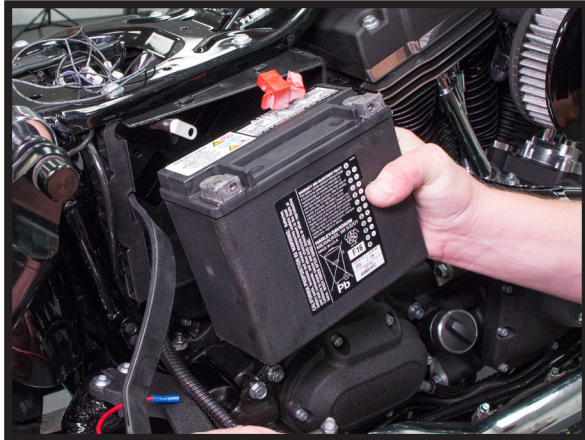

FIGURE 3
2. REMOVE THE BATTERY AND THE BATTERY BOX FROM THE FRAME. (FIGURES 3, 4)